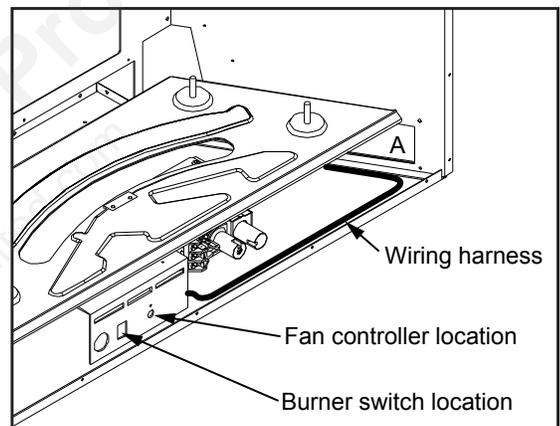
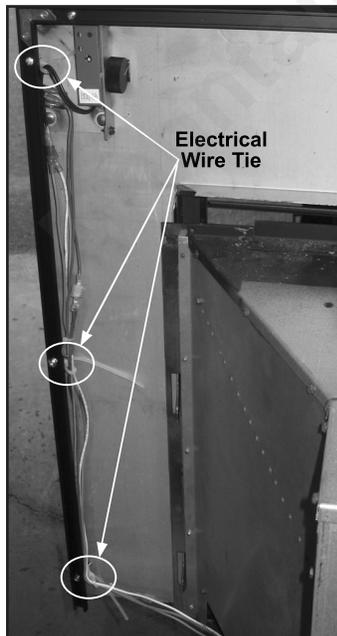
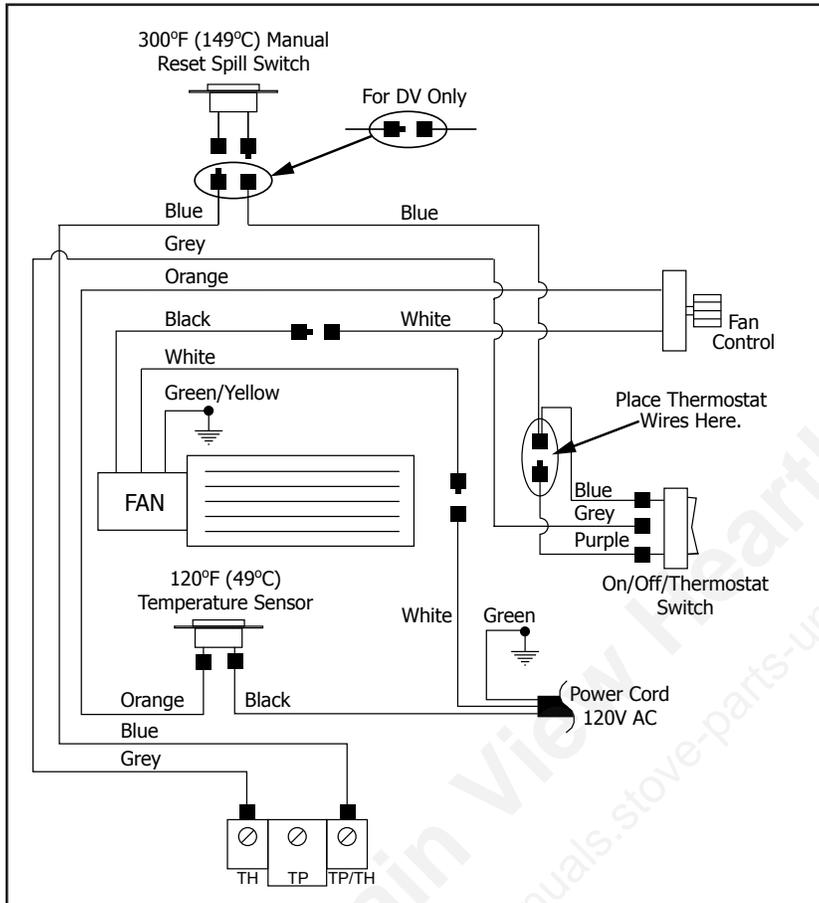

Figure 20: Component placement.
Figure 21: Wire ties holding wires against the trim.
Figure 25: Focus Wiring Diagram.
The wiring from the power cord to the fan and components should be checked, and corrected if necessary (refer to Figure 25). The fan controller and burner switch may be installed in one of three places. Keep the wires away from the bottom of the firebox or any other hot surfaces.
The fan controller and burner switch are to be installed into the Focus' control panel (see Figure 20). Remove the knob and screw from the fan controller and place the fan controller through the round hole in the control panel from the back. Tighten nut onto fan controller from the front of control panel and push on the knob. The burner switch is just pushed into place from the front of the control panel. Route the wiring harness as shown in Figure 20.
The standard surround panel comes with the Fan Controller pre-mounted in the surround panel, and the burner switch is pressed into a hole in the side top of the trim, therefore, the set that comes with the unit panel (if used) can be kept as spare parts. On the right side trim there may be three (3) holes with a Phillips screw and wire tie installed at each hole (refer to Figure 21).
If not, wire ties and an extra screw are supplied with the unit. These screws will keep the trim tight against the surround. Route the wiring harness through the hole in the lower right side of the unit marked with an 'A' in Figure 20. Connect the wires from the unit to the ON/OFF/THERMOSTAT switch and the FAN CONTROLLER on the surround panel (see Figure 25). Wrap the three (3) Wire Ties around the wiring harness to ensure the wires stays close to the trim (see Figure 21).
The fan controller is to be installed into the Focus' control panel but the burner switch can be installed into the fascia (see Figure 20). To accomplish this, cut one wire tie so that the wires can be properly routed. Place the orange and white wires through through the hole in the side of the unit, marked with an "A" in Figure 20, then along behind the front edge of the fireplace bottom to the control panel. Use the wire ties provide to bundle and secure wire. Remove the knob and screw from the fan controller and place the fan controller through the round hole in the control panel from the back. Tighten nut onto fan controller from the front of control panel and push on the knob. The burner switch is pressed into a notch on the edge of the fascia.